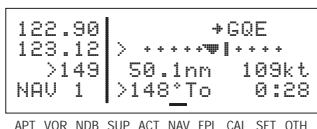

Figure 5-45
- Press **[ENT]** to approve the waypoint page and activate the waypoint (figure 5-45). The selected course does not change, therefore this method does not center the D-Bar like a Direct To operation does.